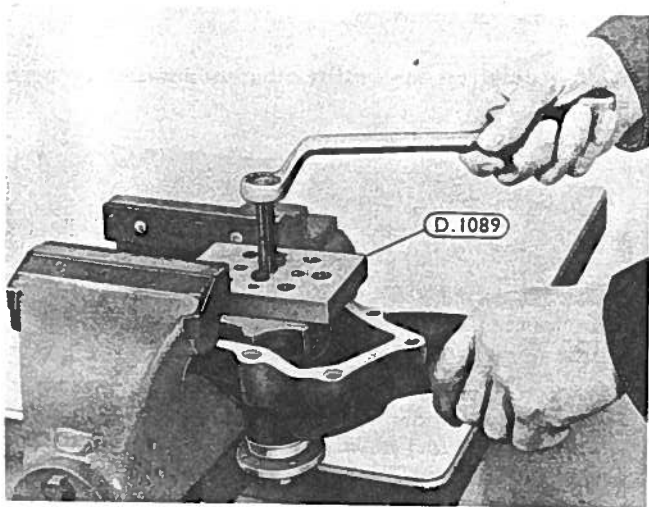

Fig.9. Withdrawing the rotor
2. Using Puller D.1089, withdraw the rotor (Fig.9).